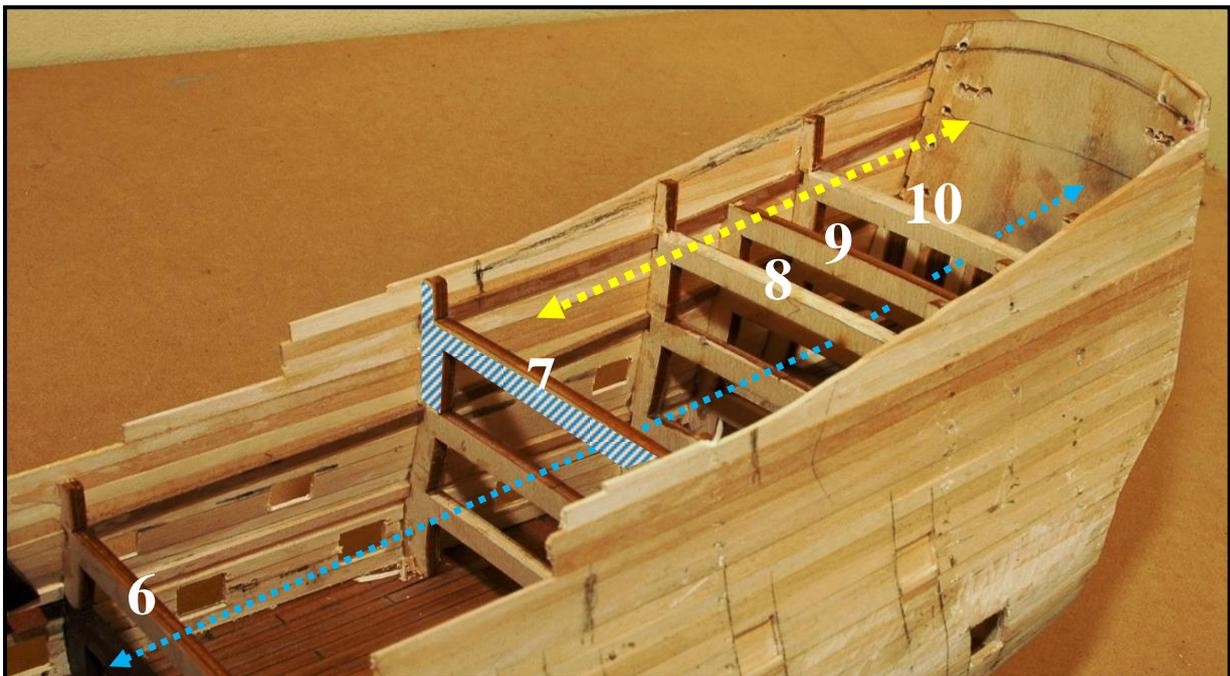

Figure 54: Ammending the Aft Frames
- The *yellow broken line in Figure 54 below represents the upper quarter deck*. The forward edge of this deck is between Frames 7 & 8 so there will be a need to remove some of the supporting stringer on each side. This front edge will require some supporting and this will be looked at later.
- The upper 'arms' for Frames 8 & 9, although too high (by just a few millimeters) were to be removed prior to double first planking these bulwarks (Fig. 54).
- The *blue broken line in Figure 54 above represents the quarter deck*. The forward edge of this deck is between Frames 6 & 5 so there will be a need to add some supporting strips on each side (Fig. 53). This front edge will require some supporting and this will be looked at later.